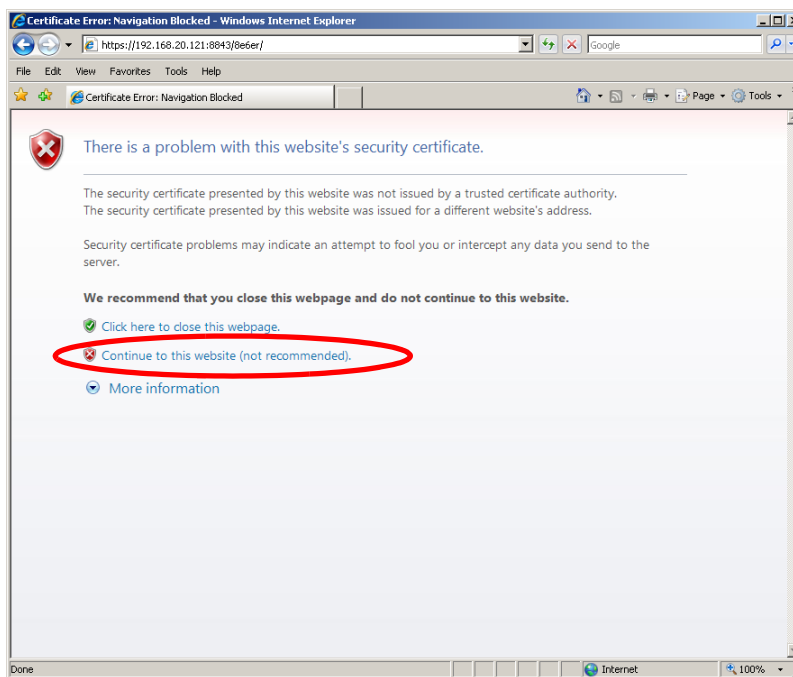
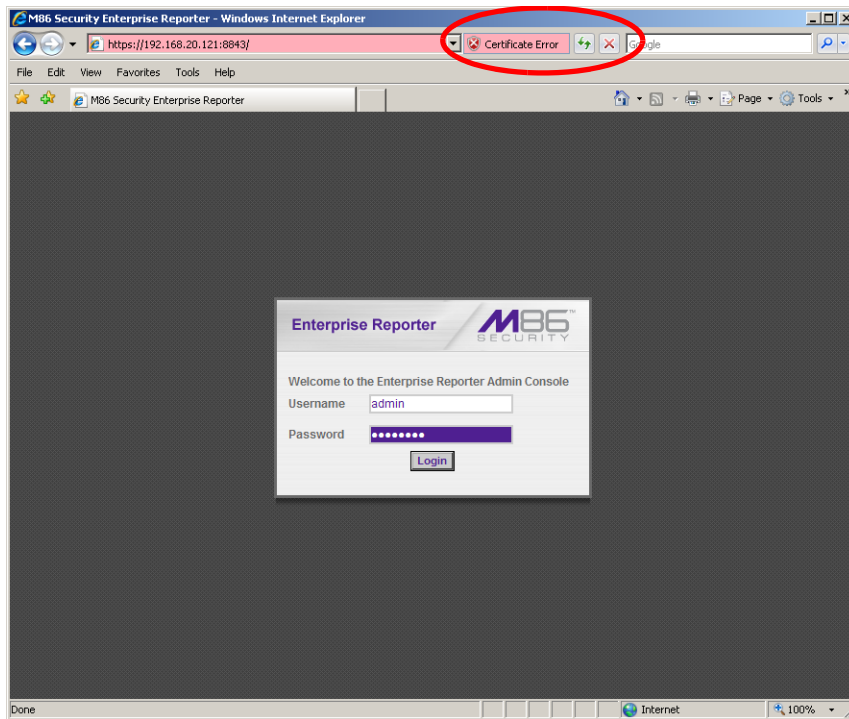

Figure A1: Windows XP, IE 7
Figure A2: Windows XP, IE 7
- When the security issue page re-displays with the message: "There is a problem with this website's security certificate.", click **Continue to this website (not recommended)** (see Figure A1). Choosing this option displays the ER login window with the address field and the Certificate Error button to the right of the field shaded a reddish color (see Figure A2).